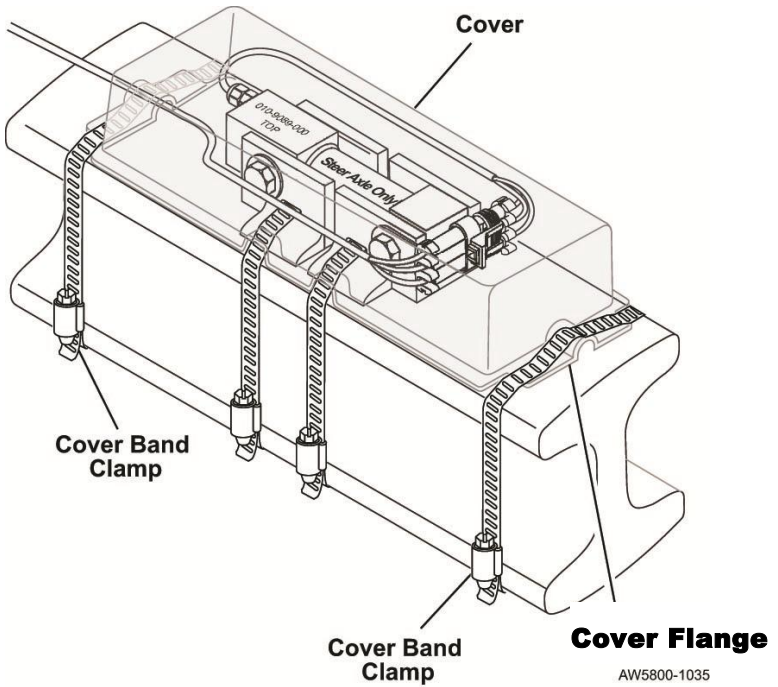

Figure 16. Attaching Band Clamps to Cover
3. Very loosely install band clamps (P/N: 139-0016-000) around the steer axle on both ends of the deflection sensor cover. Ensure that the band clamp on each side circles both the steer axle and the cover flange. See Figure 16.